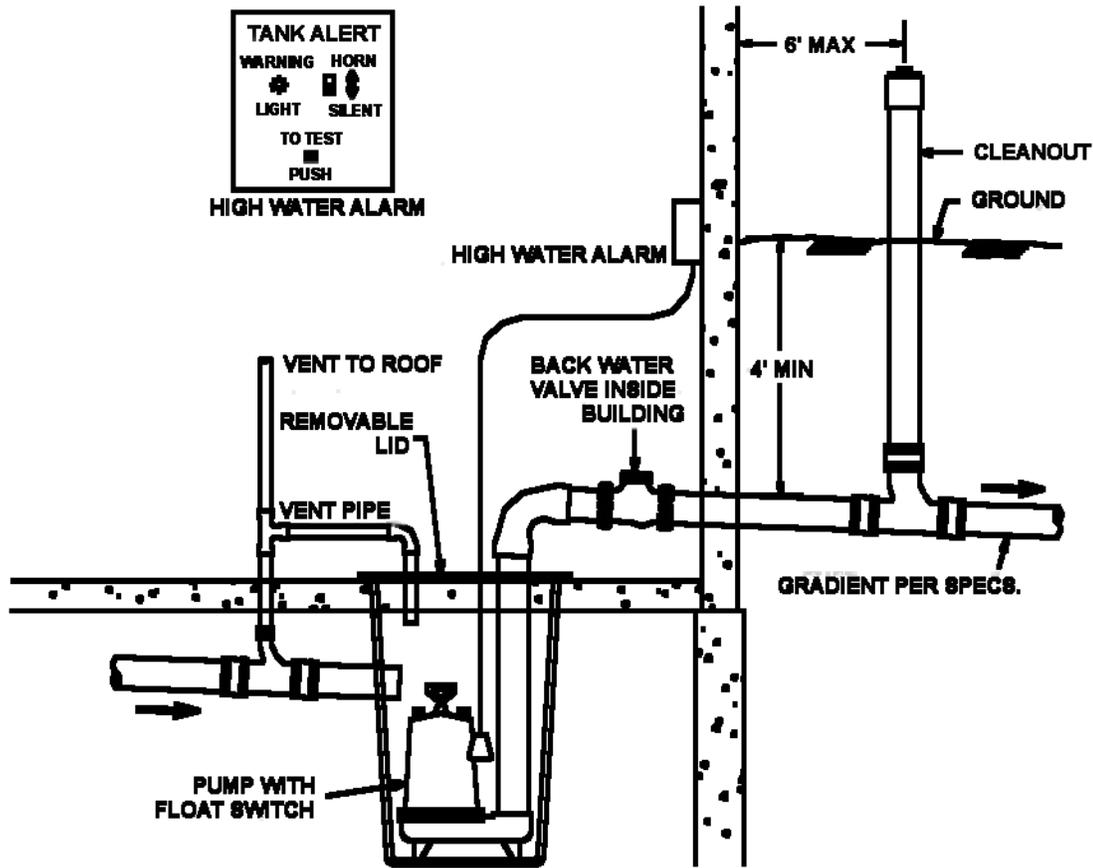

Figure 11: Wastewater Service Lift Station
- A. Wastewater clean-outs will be installed using a "No Hub" cast iron wye and one eighth (1/8) bend, or combination and a vertical cast iron pipe riser with iron bodied clean out cap, not less than four (4) inch in diameter.
- B. A clean out shall be placed in every service line no farther than five (5) feet outside the building and at intervals not to exceed one hundred (100) feet, in straight runs.
- C. Changes in alignment or grade in excess of forty five (45) degrees in a building wastewater service shall be served by a clean out.
- A. The installer shall provide a suitable backwater valve (as shown in Figure 11) designed to prevent the flow of wastewater from Utility mains into the structure for that part of the wastewater service that is connected to fixtures with flood level rims located below the elevation of the nearest upstream manhole cover of the Utility wastewater system as required by Section 710 of the Uniform Plumbing Code.
- A. Occasionally, the location and distance of the facility to be served by the Utility is such that gravity drainage is not possible along the entire length of the wastewater service. The installer shall, at the direction of the Utility, install a suitable lift station to provide the necessary pumping capacity to meet the volume, elevation, and distance requirements of the wastewater service. Basic requirements and features of lift stations are as shown in Figure 11, and as described by the Uniform Plumbing Code.